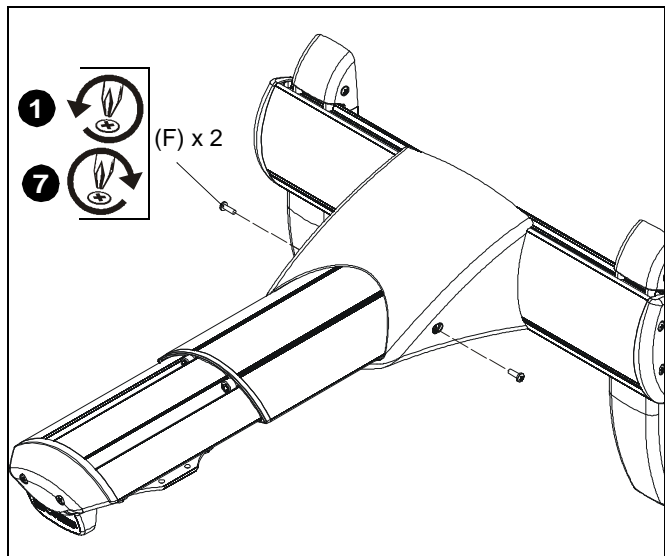

Figure 39
1. Remove two #8-32 x 1/2" Phillips pan machine screws (F) to free outer cover from mounting bracket. (See Figure 39)
7. Replace two #8-32 x 1/2" Phillips pan machine screws removed in Step 1. (See Figure 39)